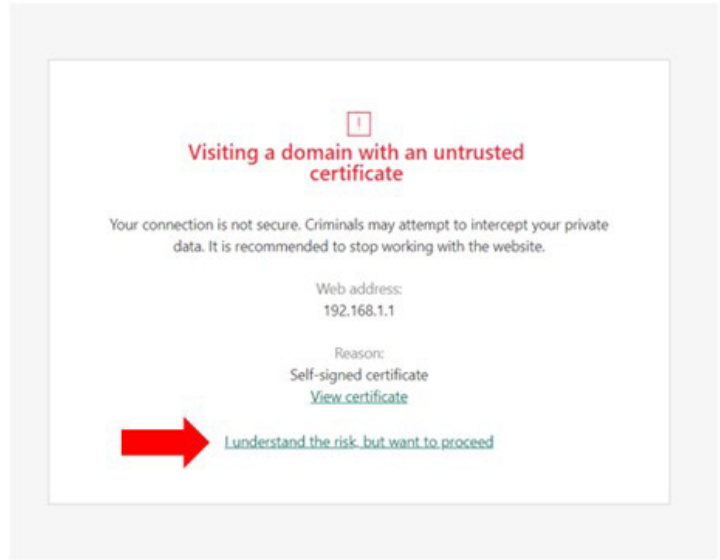

Figure 4
10. When using a Chrome browser, the following message will appear. This is a common warning message when logging into routers. If this message occurs, select the "I understand the risk, but want to proceed" option to continue with router programming. (Figure 4)